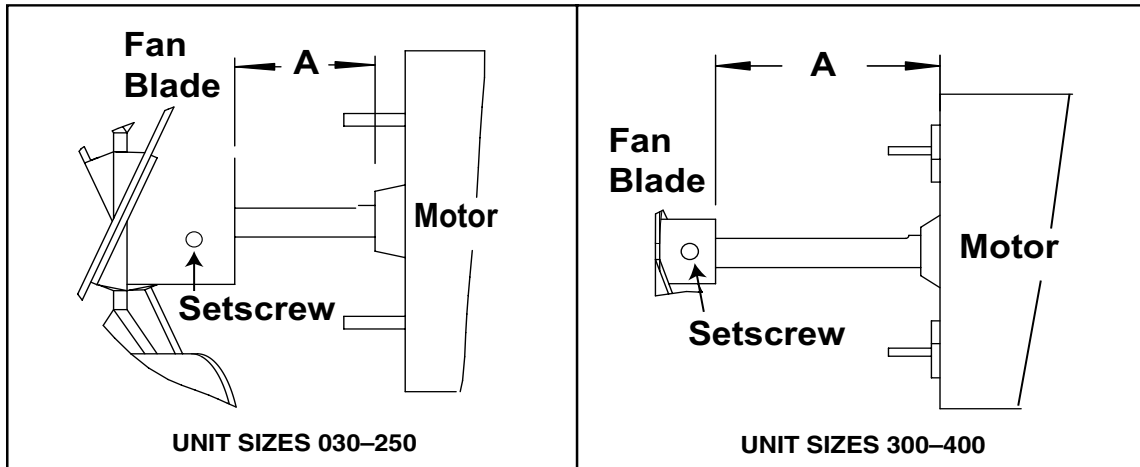

Figure 18. Fan Blade Positioning and Spacing
6. Ensure that fan blade is in proper position on shaft (see Figure 18) and that blades are properly spaced (refer to Table 24).
*See Figure 18.